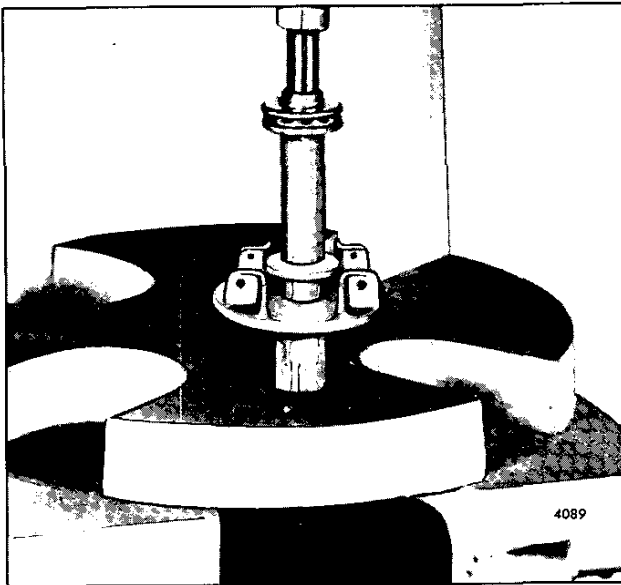

Fig. 16 – Installing Weight Carrier on Shaft
2. Use installer J 8984 as illustrated in Fig. 16 and press the shaft into the weight carrier. The tool will properly position the carrier on the shaft.